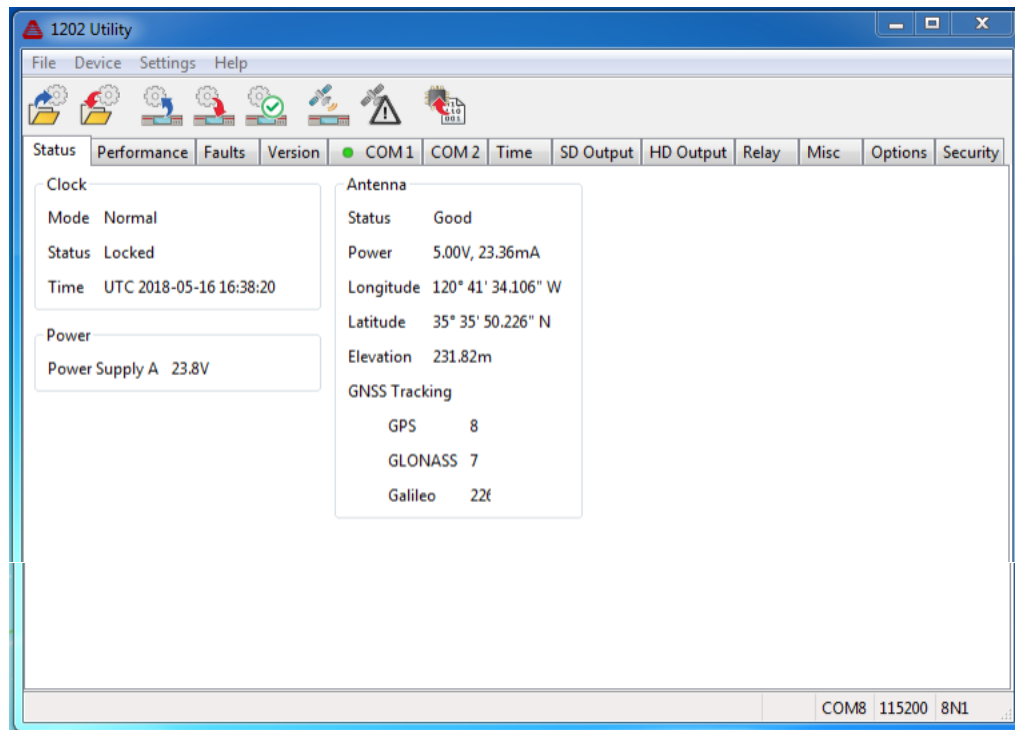

Figure 7.5: Reading the 1202B/C, Status Screen
After selecting **Device > Read**, or clicking the **Read** icon, the Utility will display the first tab information labeled **Status**. Status is organized in three groups: (1) clock status, (2) power supply status, and (3) antenna status. The definitions from Figure 7.5 below define the values in this menu item.